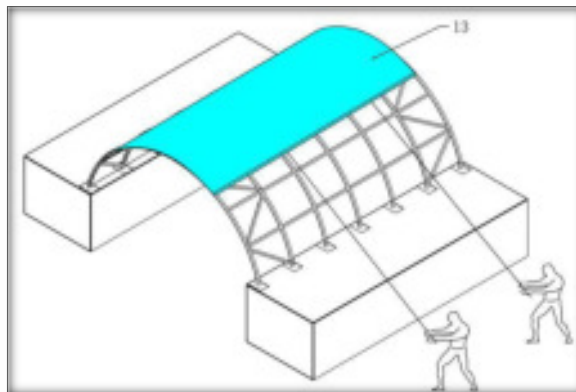

Figure 6
3. Cut pockets over each ratchet on the base plates and put the Tensioning Tube for roof cover (part code 16) into the pocket of Roof cover. Then use the Nylon band (part code 11) to tie down the Lower tensioning tubes as shown in *Figure 6*.